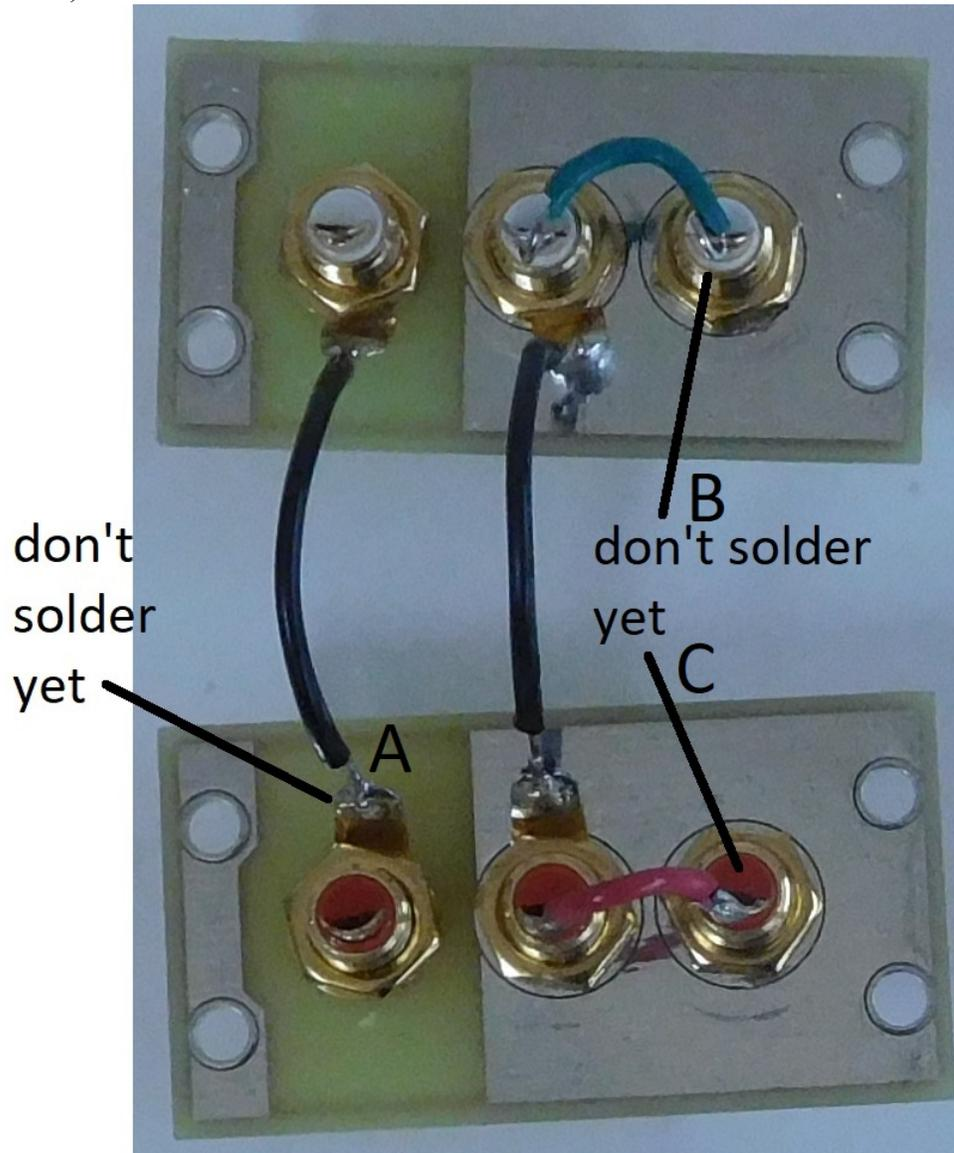

Figure 4-Pre-wire the jacks as shown, but don't yet solder the three indicated places
1. Cut two 2" lengths of black wire. Strip $\frac{1}{4}$ " of insulation from all four ends. Form the bare ends into hooks. Slip those hooks into the ground lugs as shown in Figure 4.
2. Cut a 1" length of green wire, strip $\frac{1}{4}$ " of insulation from both sides. Install the wires as shown in Figure 4. Solder and don't solder as indicated.
3. Cut a 1" length of red wire, strip $\frac{1}{4}$ " of insulation from both sides. Install the wires as shown in Figure 4. Solder and don't solder as indicated.